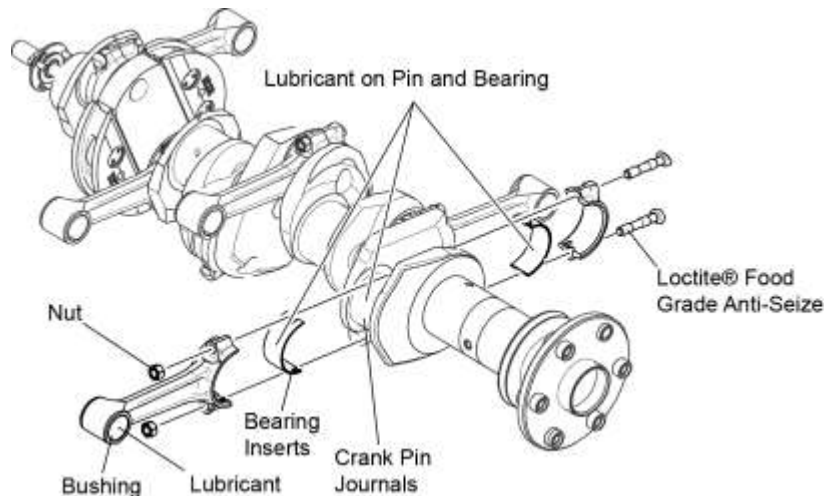

Figure 61
- (1) Ensure that all of the connecting rods have the same weight class letter.
- (2) Apply specified lubricant to the connecting rod and bearing inserts per the latest revision of Service Instruction No. SI-1059 where shown in Figure 61. Different lubricants are used on the various areas on the connecting rod and bearing surfaces.
- (6) Apply Loctite® Food-Grade Anti-Seize Lubricant or equivalent to the bottom two or three threads of the new connecting rod bolts (Figure 61). Wipe away excess lubricant with a clean, lint-free cloth.
- (7) Apply engine oil mixture to the crank pin journals.
- (8) Install each connecting rod end cap (with the bearings installed) on their respective crank pins on the crankshaft (where the numbers on the connecting rods and bearing locks point down - toward the oil sump.)